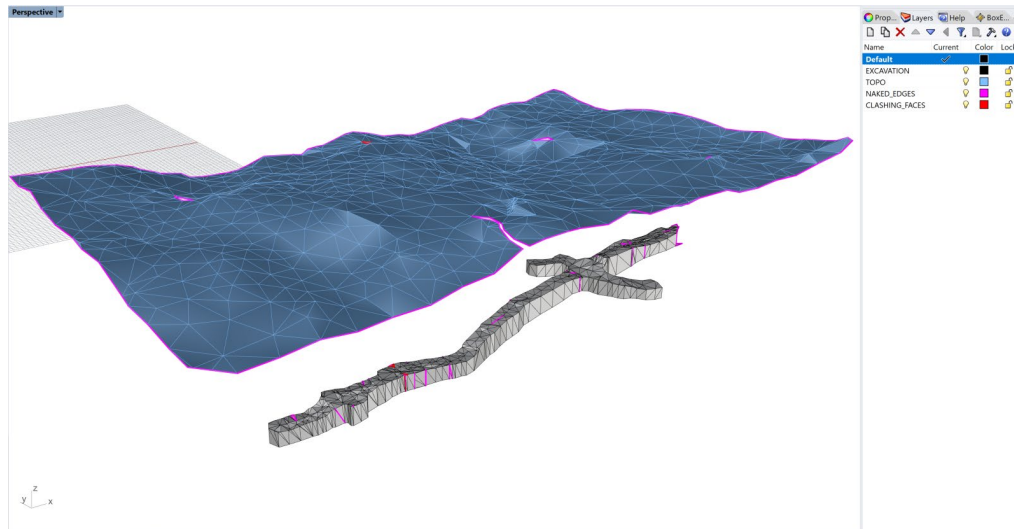

Figure 67: Displaying naked edges and clashing faces.
9. To check the meshes for naked edges (holes, cracks, disjointed faces) and clashing faces (non-conformal faces within a single mesh), type **\_GHeal** and select *ShowErrors* (Figure 67). Two new layers will appear: “NAKED\_EDGES” (pink curves) and “CLASHING\_FACES” (red curves), which contain curves outlining corresponding issues. In this case, the layers contain many curves. After mesh repair operations, the number of issues (and corresponding curves) will decrease, which can be checked by calling **\_GHeal → ShowErrors** again (the outlines of the issues will be updated). To